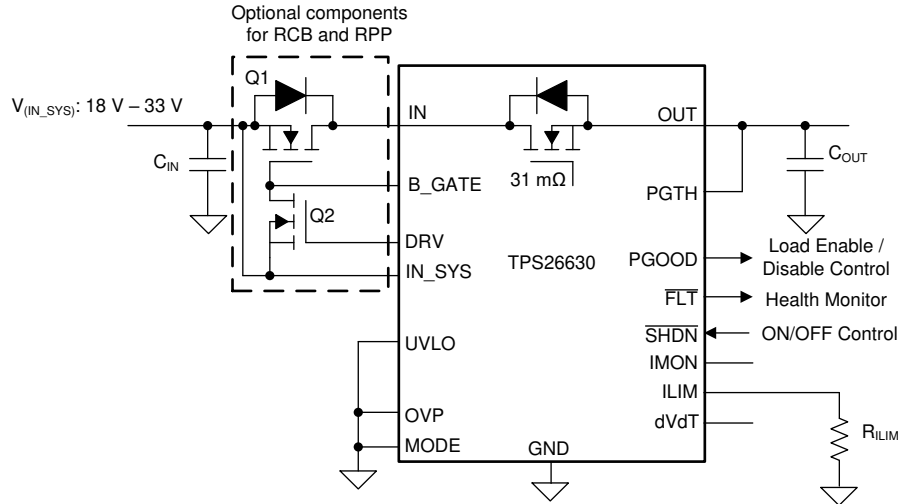

图 9-11. TPS26630 Configured for a Simple 24-V Supply Path Protection
With the TPS2663x devices, a simple 24-V power supply path protection can be realized using a minimum of five external components as shown in the schematic diagram in 图 9-11. The external components required are: an N - Channel Power FET Q₁, an N - Channel signal FET Q₂, and an R_(ILIM) resistor to program the current limit, C_(IN) and C_(OUT) capacitors.